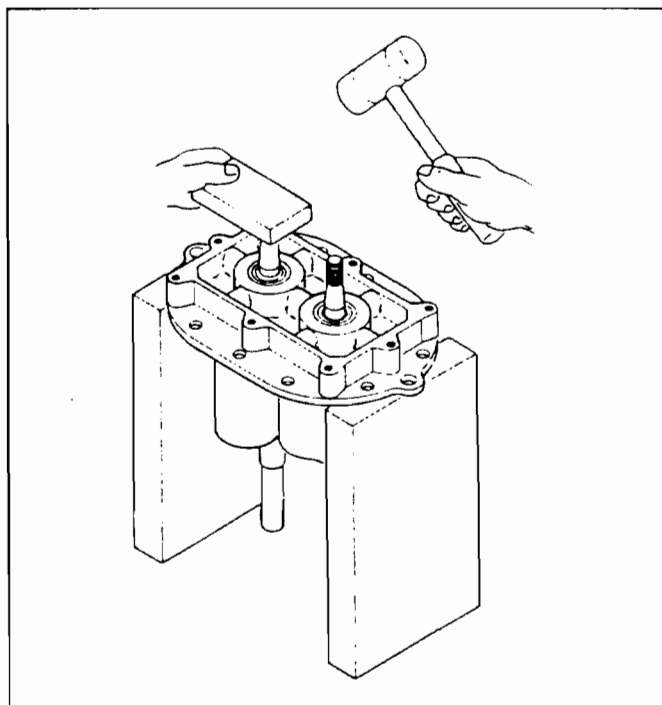

FIGURE D-4
Support the back end plate (4) on the underside. Place a wooden or soft metal block against the shafts and drive them out of the back end plate, protect them from damage if they are to be reused. (Refer to Figure D-4.)